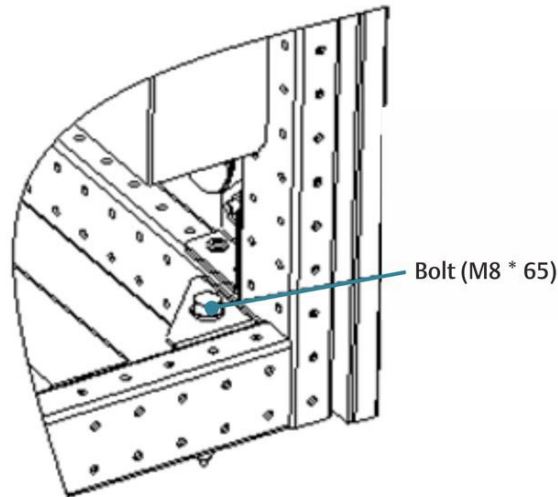

Figure 2-4 Fixing bolt on the base pallet
- The unit is fixed on a base pallet with M8 * 65 bolts. Use a 14mm wrench to remove those bolts. Figure 2-4 shows the unit fixed on the base pallet using the M8 * 65 bolts.